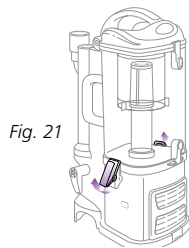

Fig. 21
- Undo the latches on the sides of the dust cup by lifting them up and outwards to remove the dust cup from the motor base. (Fig. 21)